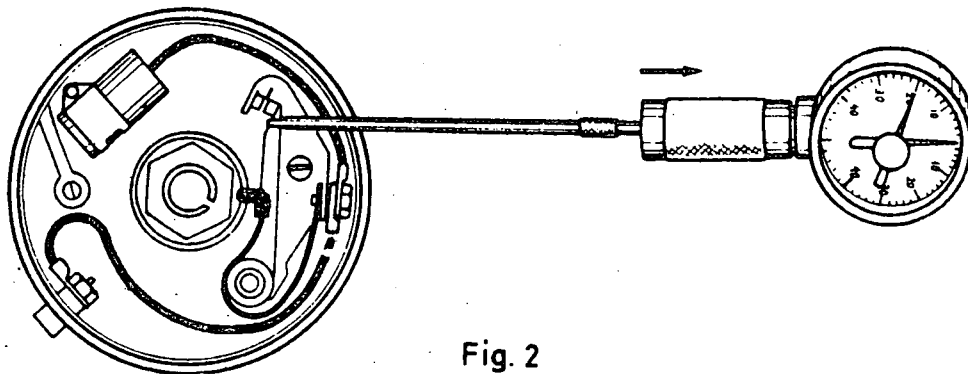

Fig. 2
- a) Check the tension in the spring of the contact points (fig. 2).